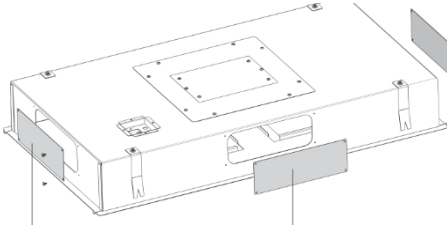

Fig 3
1. The extractor features 4 air outlets (Fig 3). Choose the correct outlet depending on where the ducting will be installed.